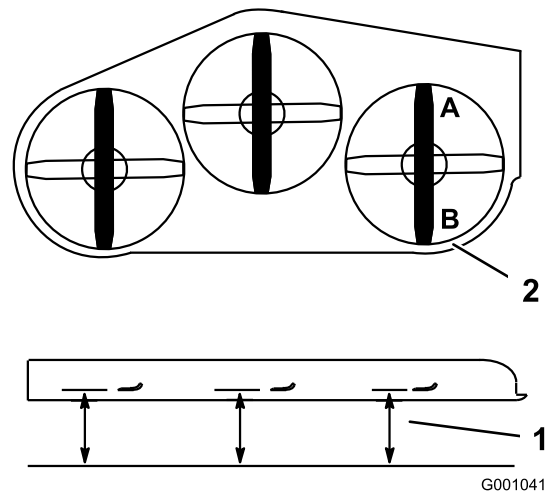
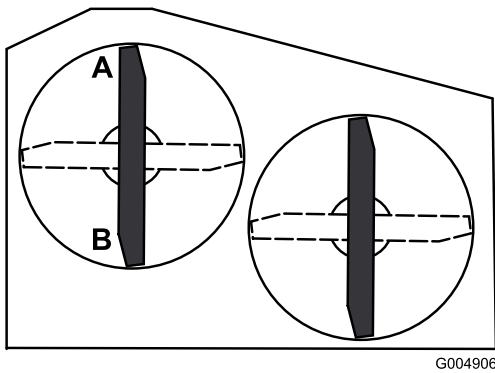

Figure 66
Figure 67
2. Position 1 blade front-to-rear. Measure at A and B locations from a level surface to the cutting edge of the blade tips (Figure 66 or Figure 67).
Note: For 36 inch mower decks use Figure 67.
5. Measure at **C** and **D** locations (Figure 66) from a level surface to the cutting edge of the blades.